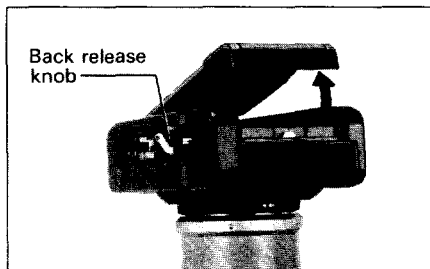
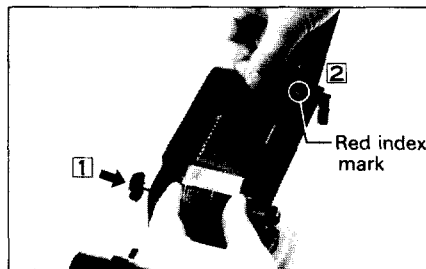

Fig. 11
Fig. 12
① Open the rear cover by pulling up on the release knob. (Fig. 11)
② Insert the film cartridge and press the release knob back down.
(Fig. 12-①)
③ Pull the tip of the film leader out to the red index mark. (Fig. 12-②)